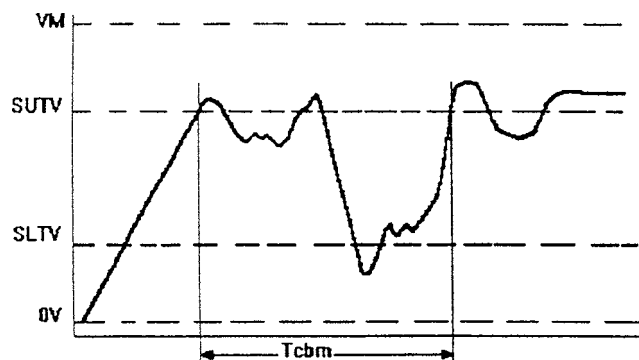

FIG. 2 Contact Bounce on Switch Make
3.1.3 *contact bounce time (make)*, T_{CBM} —the time period measured from the first instant V_M is equal to the SUTV until the first instant it again rises above the SUTV after the last instant it falls below the SLTV. If V_M does not fall below SLTV during the time interval, $T_{CBM} = 0$, (see Fig. 2).